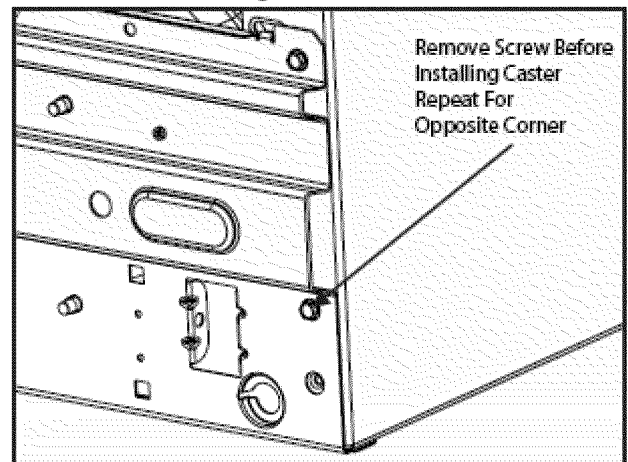

Figure 4
- Remove and discard the screws shown in Figure 4 from each bottom corner using a 5/16" socket wrench.